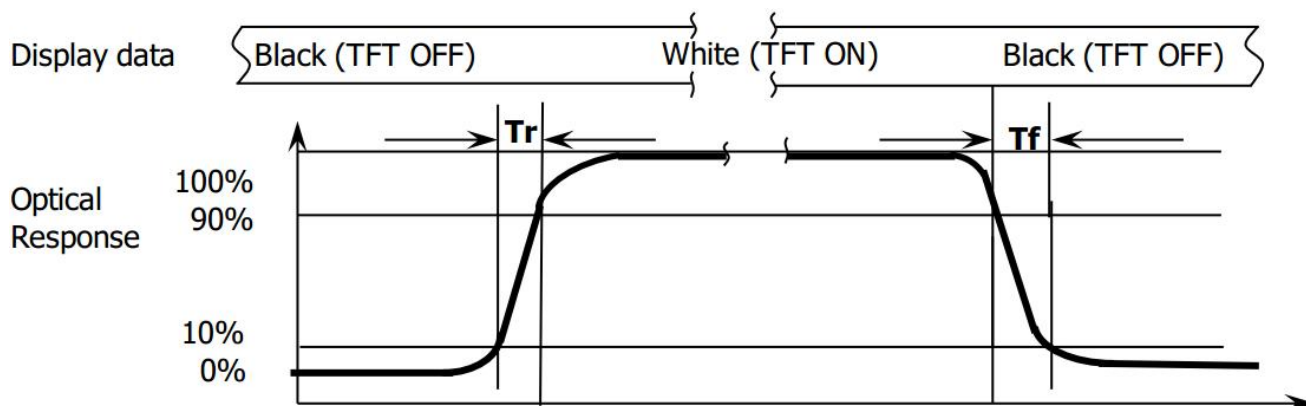

FIG.2. Measuring method for Contrast ratio, surface luminance, Luminance uniformity, CIE (x, y) chromaticity
Note1. Contrast Ratio(CR) is defined mathematically by the following formula. For more information see FIG 2.:
备注1. 对比度是由以下公式计算所得。详见FIG 2.。
Note2. Surface luminance is the LCD surface from the surface with all pixels displaying white. For more information see FIG 2.
备注2. 表面亮度是在显示白色画面时，测试的亮度值，详见FIG 2.。
Note3. The uniformity in surface luminance (δ WHITE) is determined by measuring luminance at each test position 1 through 5, and then dividing the maximum luminance of 5 points luminance by minimum luminance of 5 points luminance. For more information see FIG 2.
值除以最大值。详见FIG 2.。
Note5. CIE (x, y) chromaticity ,The x,y value is determined by screen active area position 5. For more information see FIG 2.
备注5. CIE(x,y)色坐标 测试点为显示屏中心点P5。详见FIG 2.。